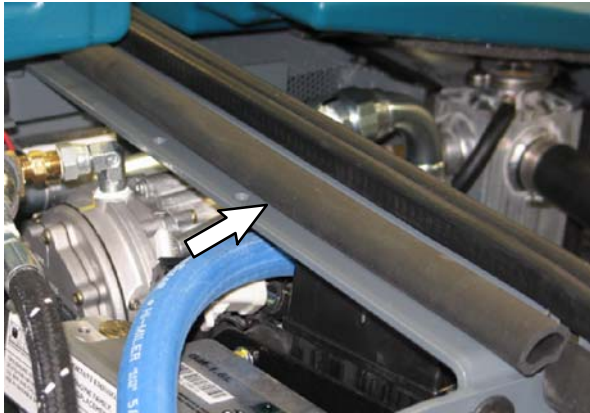

FIG. 50
65. Install a 410 mm (16 in) rubber seal (103) onto the left rear cover support (29). (Fig. 50)